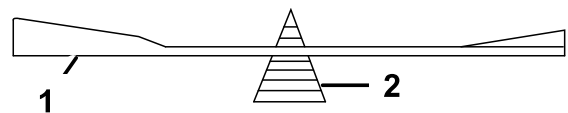

Figure 18
2. Check the balance of the blade by putting it on a blade balancer (Figure 18).